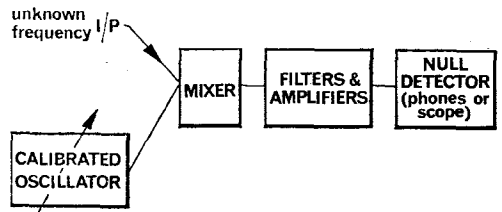

Fig. 13. Heterodyne principle
33. **The heterodyne principle.** Figure 13 shows a simple heterodyne arrangement often used for frequency measurements. The unknown frequency is mixed with a known frequency derived from a calibrated oscillator (signal generator). The difference frequency produced from the mixer is amplified and fed to a null detector, usually a telephone headset. The frequency of the calibrated oscillator is adjusted until the output to the headset is zero. At this position the difference frequency is zero i.e. the calibrated oscillator is tuned to the unknown frequency. The frequency can be read directly from the oscillator, and will have the same accuracy as the oscillator circuits i.e. about 1 part in 10000 for an LC tuned circuit.